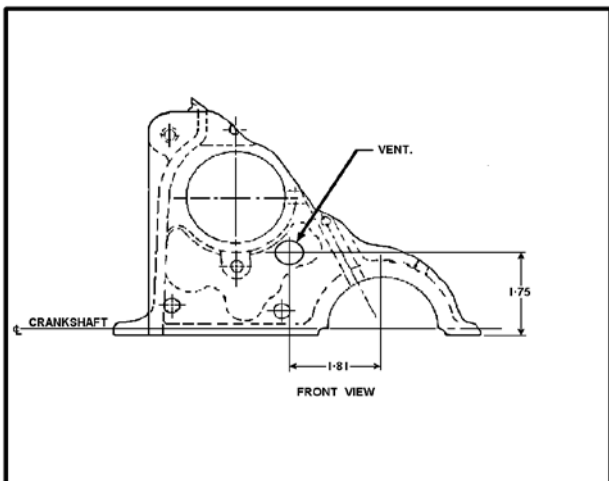

Fig.2
2. A vent hole 1/2 in. dia. added to front face of cylinder block beneath the camshaft bearing bore adjacent to a line taken from the camshaft and crankshaft centre lines (see Fig. 2).
The operation of replacing or entering the bolt can be simplified and damage prevented by fabricating a small metal protective cap shaped like the nose of a bullet to fit over the threaded end of the bolt (see Fig. 2).